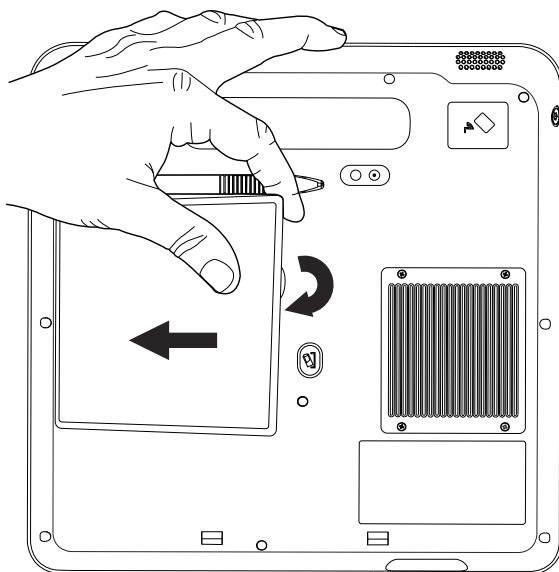

Figure 38. Installing the battery.
3. Place the side of the battery without the black connection into the slot first (Figure 38).